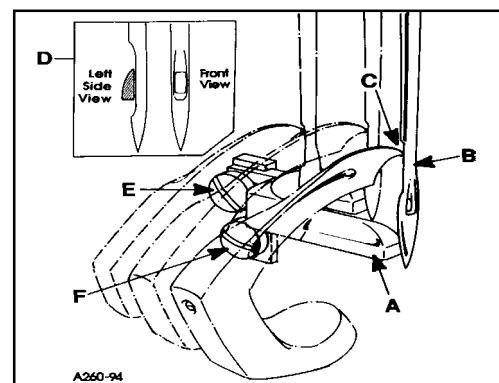
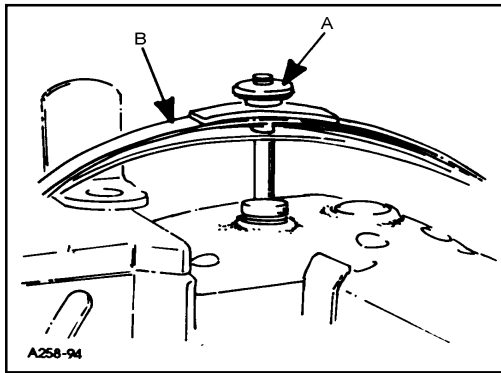
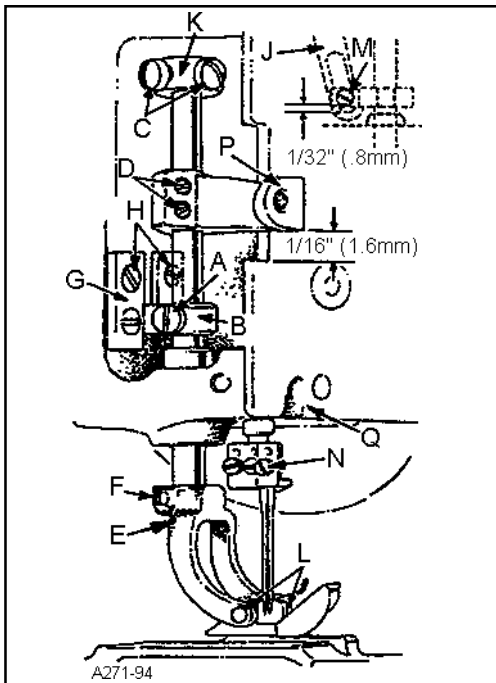

FIG. 13
FIG. 14
FIG. 15
Set the rear needle guard (A, Fig. 13) horizontally to touch and possibly deflect slightly to obtain solid guarding of all needles (B) when at its extreme forward position. If adjustment is necessary loosen screw (E) and move guard front to back as required. It should be set vertically as low as possible, yet have its guarding surface in contact with the needles until the points of the loopers (C), moving to the right, are even with the right side of the needles. If adjustment is necessary loosen screw (F) and move guard and holder up or down as required.
NOTE: When installing the needle it should be parallel with the eye in line of feed. If adjustment is necessary, loosen screw (N, Fig. 15) in needle head and rotate needle to attain adjustment (D, Fig. 13).
Remove presser bar leaf spring (B, Fig. 14) and nut (B). Loosen screw (A, Fig. 15) on presser bar guide (B). Loosen screws (C) in upper collar and screws (D) in needle lever thread pull-off lever.. Slide presser bar upward high enough to slip on presser foot yoke (E) with foot attached and tighten screw (F) on flat of presser bar. Position foot so that the needle holes in the foot line up with the holes in the throat plate. Tighten screw (A)
Presser foot guide plates (G, Fig. 15) should be set so that entire presser foot and bar assembly has free movement up and down with no left to right movement.
With foot properly aligned on throat plate and presser bar guide (B, Fig. 15) securely fastened to presser bar, adjust both guide plates (G) to obtain above setting. Tighten four screws (H).
Reinstall presser bar spring (B, Fig. 14) and knob (A), with presser foot resting on throat plate.
The presser foot should be adjusted to be 1/8" (3.17mm) above the throat plate before the feed roller mechanism begins to rise.. Loosen screw (A, Fig. 15) in presser bar lifter and guide (B), raise or lower guide as required to attain the specified point at which the feed roller begins to rise. Retighten screw (A) and maintain needle settings.
NOTE: There should be a minimum 1/32" (0.8mm) clearance between screw (M, Fig. 15) and the bottom of the slot in link (J).
Regulate the pressure on the presser foot by turning the presser spring regulating knob (A, Fig. 14) located on top of pressure foot spring (B)..
To remove just the presser foot, remove screws (L, Fig. 15) and replace foot, retighten screws (L).